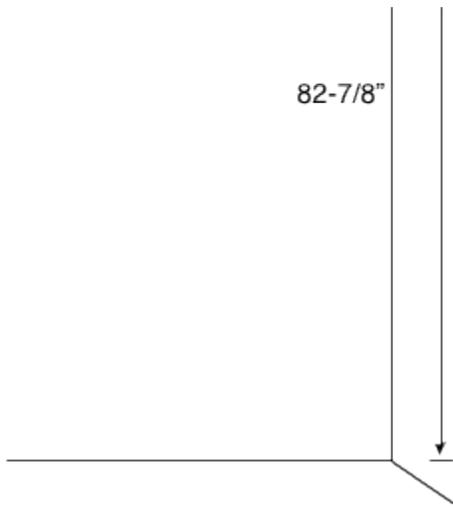

Fig. 2
5. On the closet wall, locate and mark the studs in the wall at 82-7/8" from the floor. (See Fig. 2)